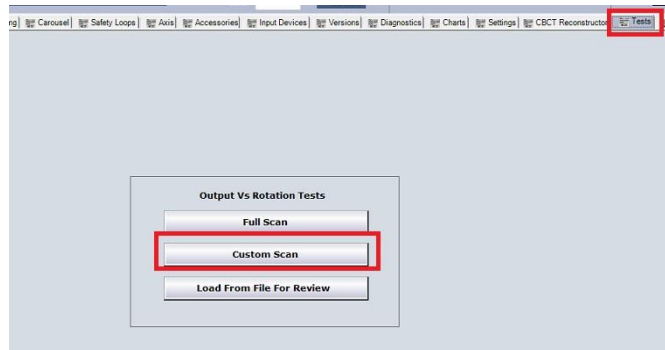

Figure 13: Selecting Output vs Rotation Test
2. Select the **Tests** tab and then select **Custom Scan** (see Figure 13).